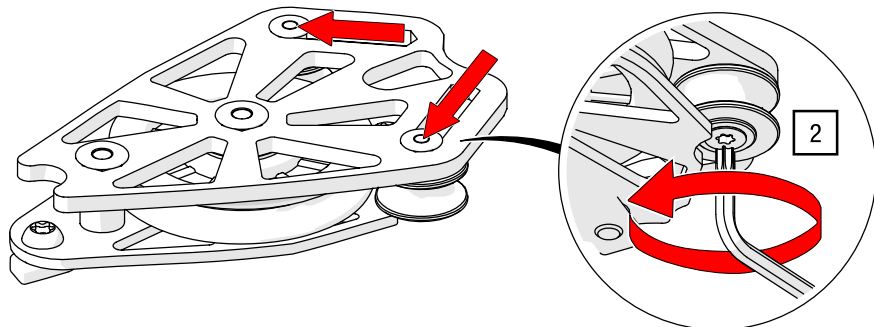

Fig. 74: Side cord operation – Adjusting the return pulley
2. Loosen the cord guides on the return pulley, slide them to the position shown and tighten the screws again using a TORX®-key T30 and 11 Nm (see Fig. 74).